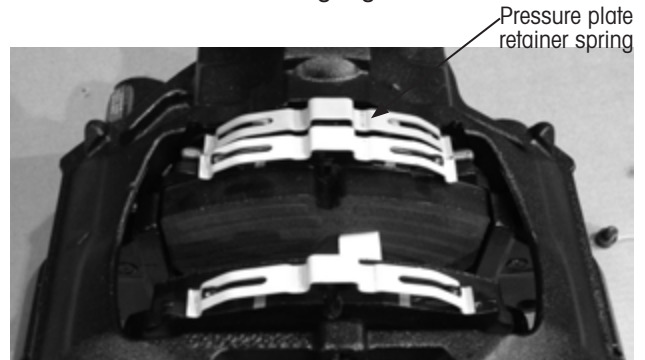

Figure 34: Installing pressure plate retainer spring
9. **Place** a new retainer spring onto the pressure plate (Figure 34).